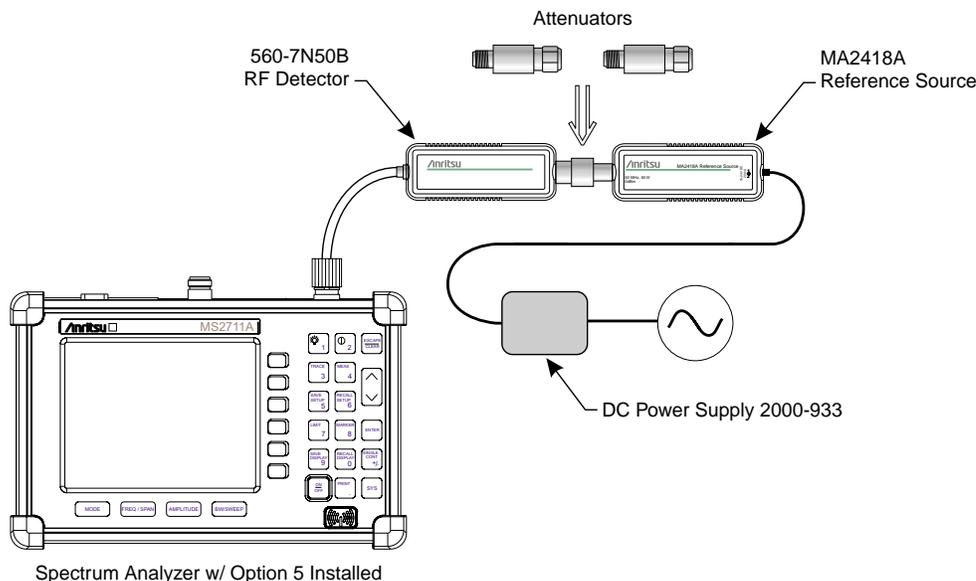

Figure 4. Power Monitor Verification
1. Connect the DC power supply to the MA2418A Reference Source. (Refer to Figure 4).
10. Connect the output of the MA2418A Reference Source to the two attenuators so as to add 40 dB of attenuation (Figure 4).